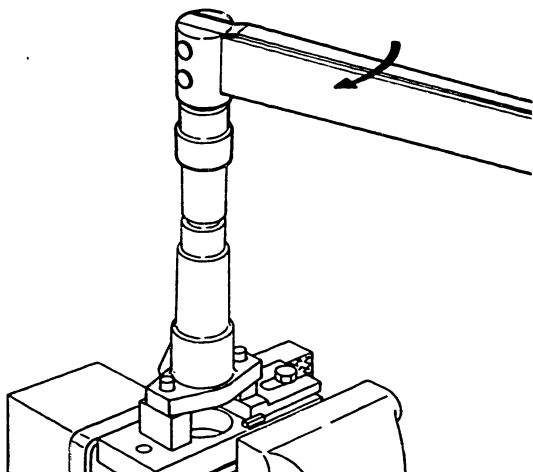

Fig. 20 Tightening the retaining nut
5. Tighten the retaining nut to the specified torque with a socket wrench (Part commercially available) and a torque wrench. (Fig. 20).